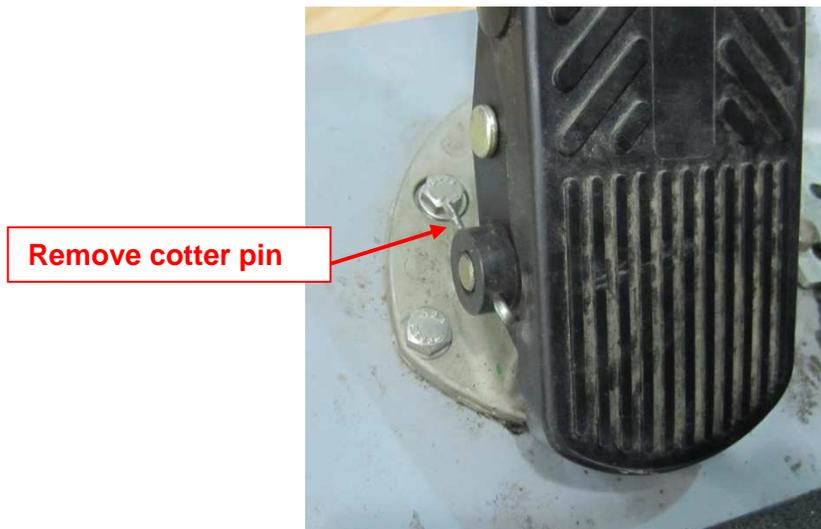

Figure 5: Remove Cotter Pin from Brake Pedal
13. Remove the cotter pin from the brake pedal, see Figure 5. Remove the brake pedal from the mount, set the hinge pin and pedal aside for re-use, discard the cotter pin.